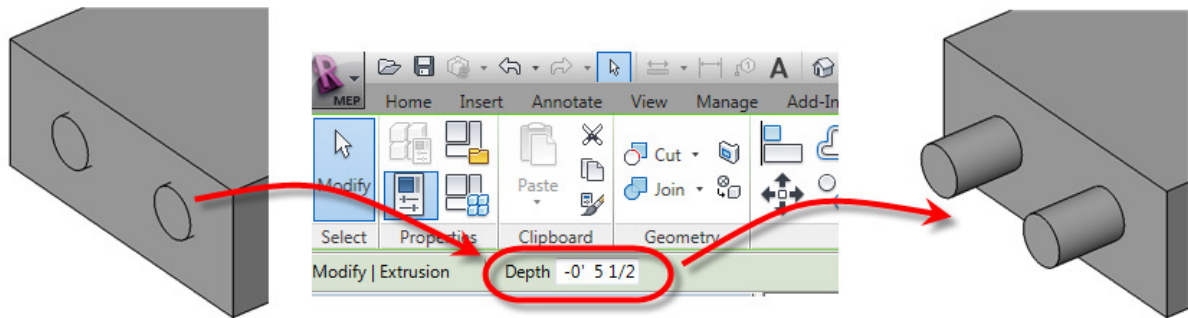

Figure 38. Modifying the Extrusion direction.
The extrusion is actually going *in* to the box (see Figure 38). This is because the Reference Plane's positive side is facing the wrong direction. You can easily rectify this.
24. Select one of the sleeves (both of them will be selected since they are from the same sketch). On the *Options Bar*, change the *Depth* to -0' 5 1/2". The Sleeves should now be properly oriented as shown in Figure 38.